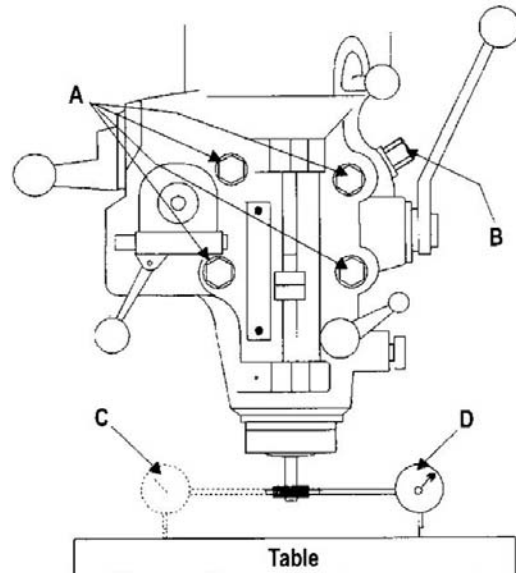

Figure 10: Test perpendicularity
5. Set up a dial indicator in a collet and secure using the draw bar (refer to Figure 10).
c. Set up a dial indicator in a collet and secure using the draw bar (refer to Figure 10).